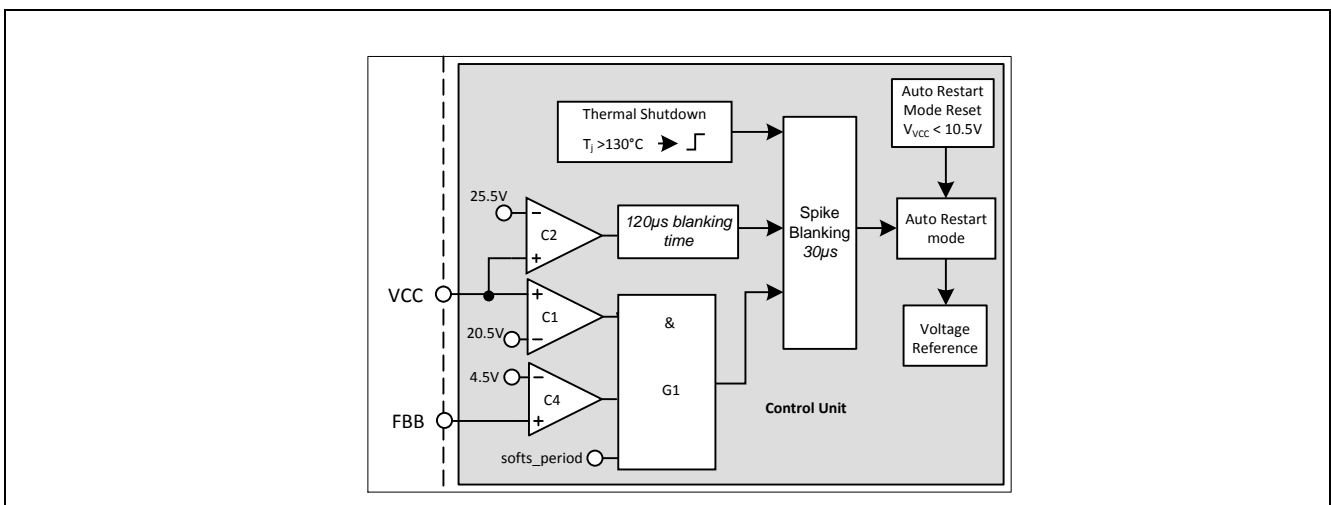

Figure 30: Vcc OVP and OTP
Vcc OVP (1) condition is when VVCC voltage is > 20.5V, VFBB voltage is > 4.5V and during soft start period, the IC enters into odd skip Auto Restart Mode. This condition likely happens during start up at open loop fault (Figure 30).
VCC OVP (2) condition is when VCC voltage is > 25.5V, the IC enters into odd skip Auto Restart Mode (Figure 30).
The over temperature protection OTP is sensed inside the controller IC. The Thermal Shutdown block keeps on monitoring the junction temperature of the controller. After detecting a junction temperature higher than 130°C, the IC will enter into the non switch Auto Restart mode. The ICE3AR1580VJZ has also implemented with a 50°C hysteresis. That means the IC can only be recovered when the controller junction temperature is dropped 50°C lower than the over temperature trigger point (Figure 30).